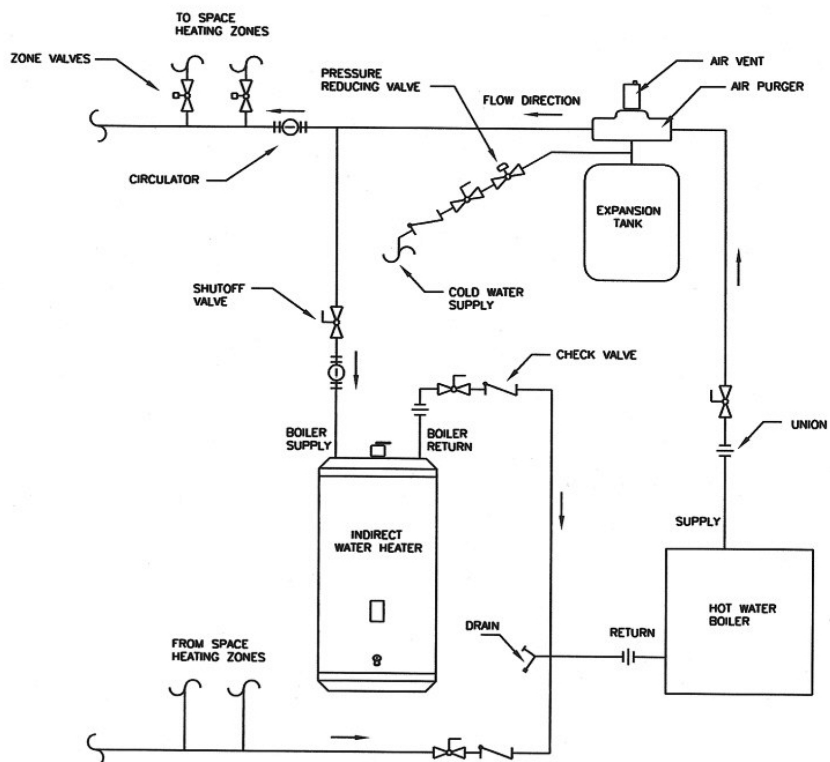

FIGURE 3 – BOILER WATER PIPING WITH ZONE VALVES
1. Determine where the boiler, the space heating, and the water heater connections should be made based on the type of piping system that is either in place, or is to be installed for a new hydronic system installation. See Figure 2, Boiler Water Piping with Zone Circulators, and Figure 3, Boiler Water Piping with Zone Valves.
For a space heating system that uses Zone Valves, refer to Figure 3. The water heater connection labeled "BOILER SUPPLY" should be piped to the boiler supply piping after the air purger and before the space heating circulator. Mount the water heater circulator as close as possible to the water heater, and make sure the flow arrow points toward the water heater. The use of a shut-off valve is recommended for future service convenience.